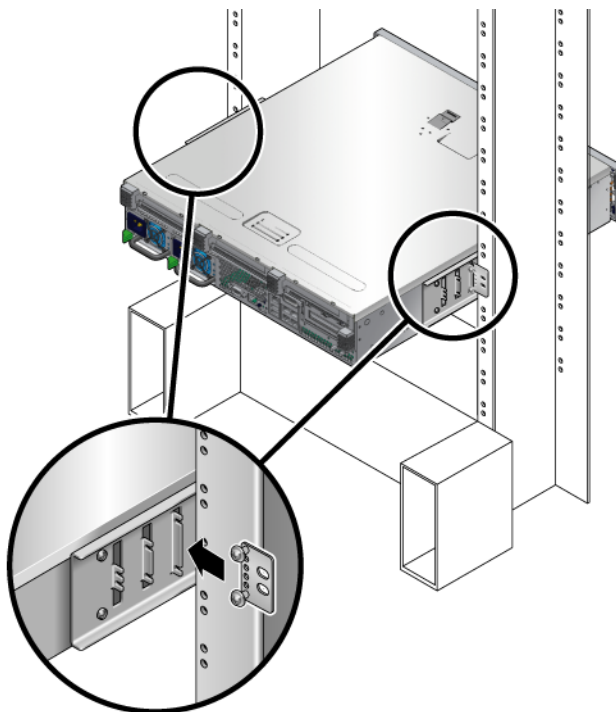

FIGURE 4-12 Installing the Rear Plate to the Side Bracket
The screw heads should be facing the rear of the server and the other side of the rear plate should be in front of the rack post (FIGURE 4-12).
- c. Tighten the screws to secure the rear plate to the set of eyelets on the side bracket (FIGURE 4-12).